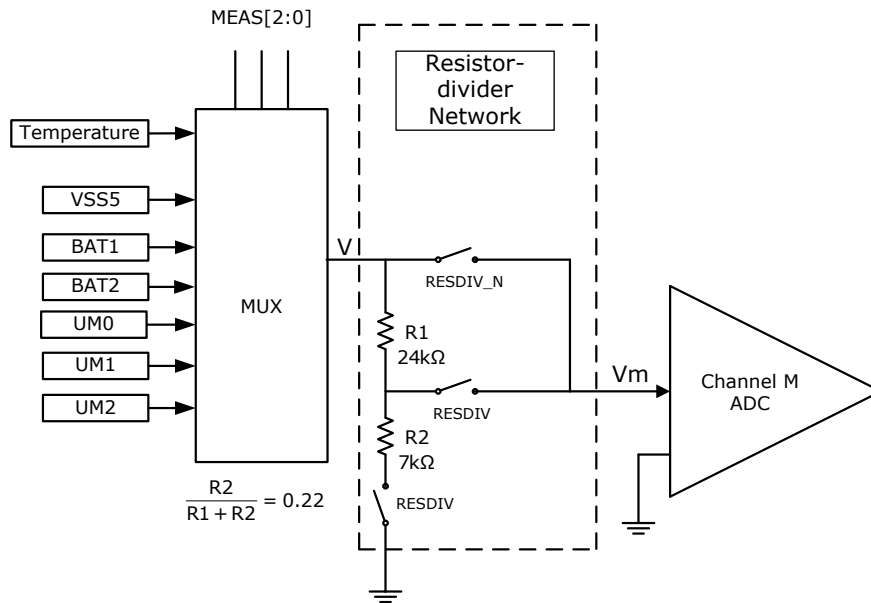

Figure 8-14 Schematics of M Channel
The M Channel can be configured to measure Ground, temperature, RTC battery voltage, main battery voltage and external voltage sources. Figure 8-14 shows the schematics of M Channel.
There is only one ADC for M Channel, so, battery voltage, temperature and external voltage sources should be measured alternatively, as shown in Figure 8-14. As for V9003/V9103, the pins BAT1, UM0, UM1, and UM2 all can be configured to measure main battery voltage and external voltage sources, and BAT2 can be used to measure RTC battery voltage only.
As shown in Figure 8-14, the relationship between battery voltage or external voltage (V) and the input signal into the M Channel ADC (Vm) is determined by the bit RESDIV (bit 7 of ICtrl1).